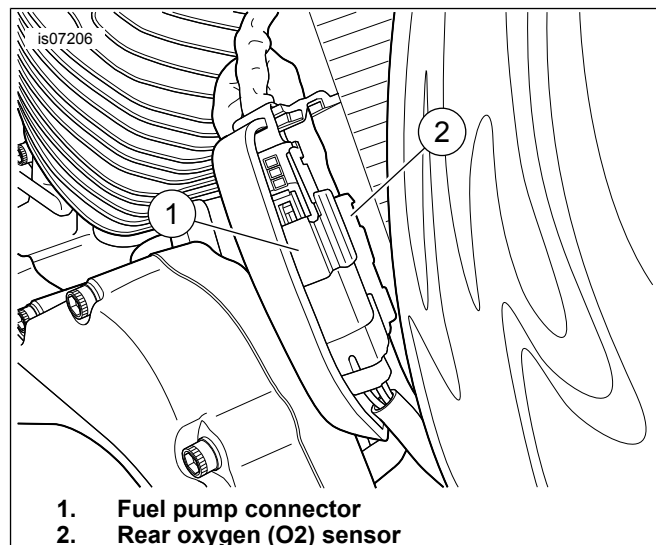

Figure 2. Connectors
4. See Figure 2. Remove fuel pump connector (1) and rear oxygen (O2) sensor connector (2) from ECM cover. Disconnect rear O2 sensor connector.